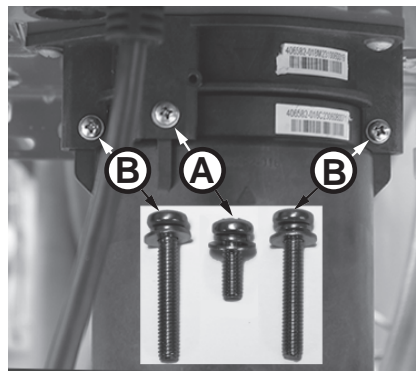

Figure 243 - Identify cartridge screws
- 5 Locate the three (3) screws securing the X3®/Bypass cartridge as shown in Figure 243. Remove the **(A)** M4-12mm screw and the two **(B)** M4-25mm screws from cartridge. Place screws aside in a safe place for reinstallation.